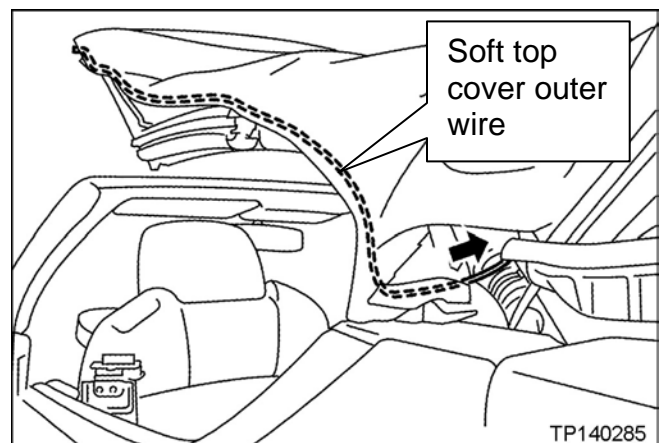

Figure 28
- Figure 28 is provided for reference showing location of outer wire.